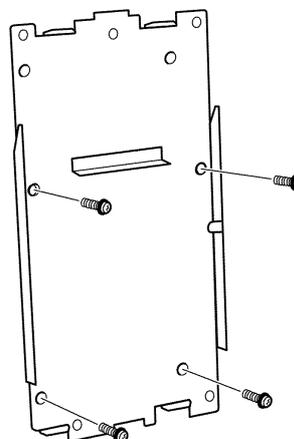

Figure 4-12 Attaching the Wall Mount Bracket
- Before wall mounting the KSU, the wall mount bracket should be attached to fire retardant plywood. Using the four (locally provided) screws, attach the wall mount bracket to the wall as shown in *Figure 4-12 Attaching the Wall Mount Bracket*.